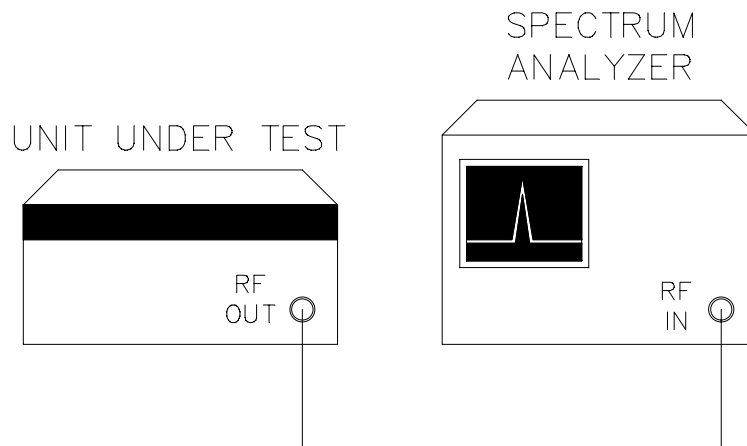

Figure 4-2. Spurious Signals Test
1. Connect the equipment as shown in Figure 4-2. Allow the equipment at least 30 minutes of warm-up time. Press the [SHIFT] [RESET] on the UUT. Press the [FREQ] key and enter the first Test Data Sheet frequency within the range of the particular instrument. The RF amplitude should be at 0 dBm (the reset value). Press the [RF ON/OFF] button and turn on the RF output.